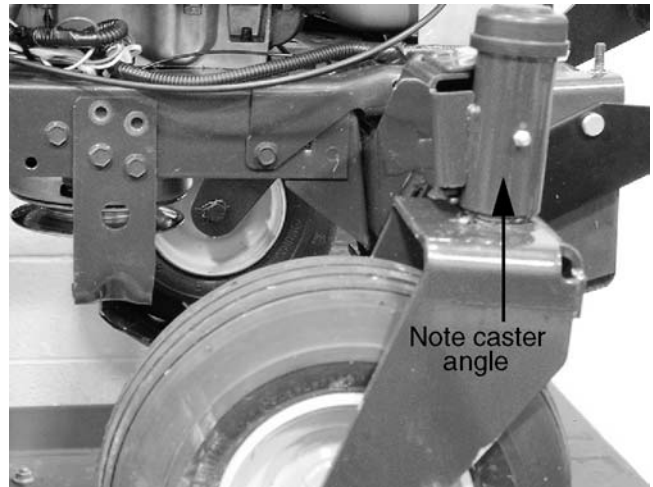

**Figure 11-54**
24. Remove the dash panel from the tractor. See Figure 11-54.